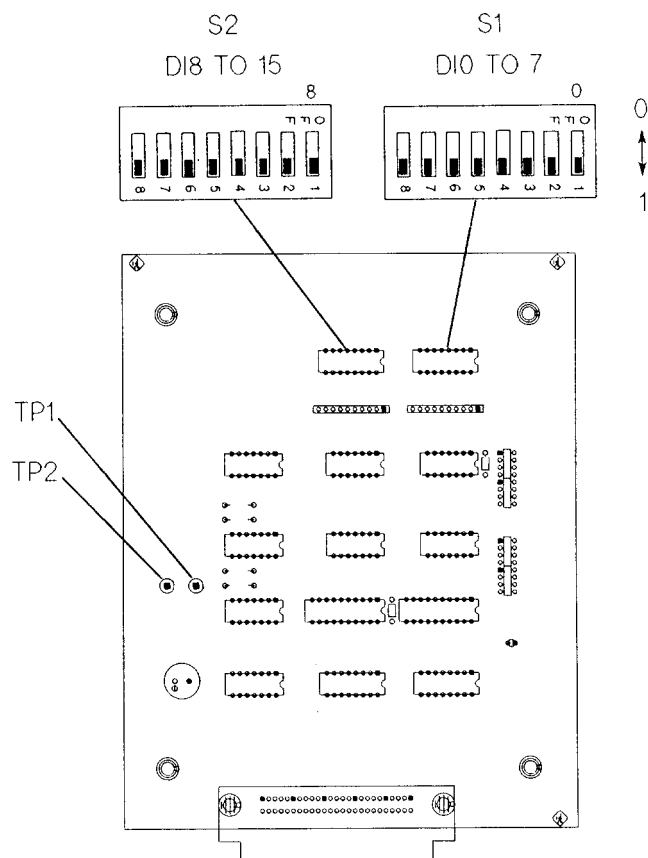
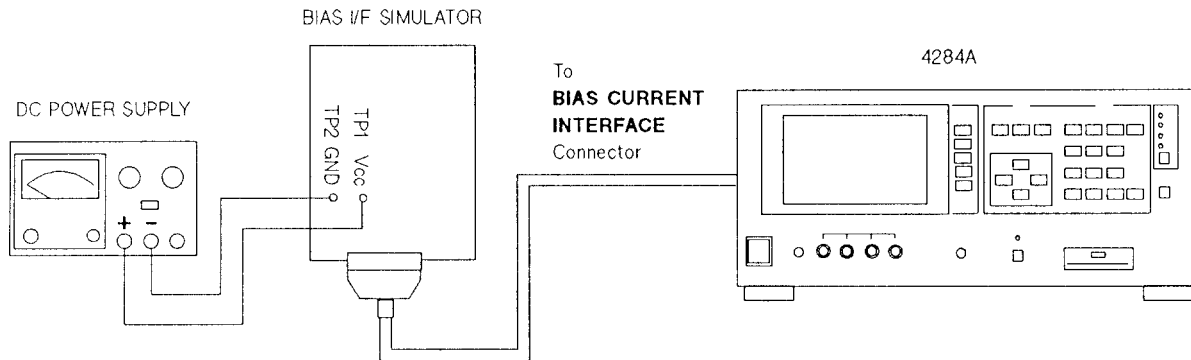

Figure 10-9. Bias Interface Simulator
Figure 10-10. Bias Current Interface Function Test Setup
Procedure: 1. Set all switches of S1 and S2 on the bias interface simulator to '1' as shown in Figure 10-9.
2. Set DC power supply output voltage +5 V. Connect TP2(GND) on the bias interface simulator to '-' terminal of the power supply. Then connect TP1(Vcc) on the simulator to '+' terminal of the power supply. (refer to Figure 10-9 and Figure 10-10)
- Interconnect the bias interface simulator and bias interface connector on the rear panel of the 4284A with the bias interface cable as shown in Figure 10-10.